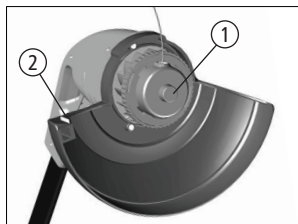
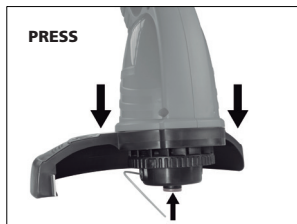

Fig. 11
Fig. 12
While holding down the spool button (1) [Fig. 11] pull the nylon string out to the limiter blade on the guard. Then release the spool button and the nylon string so that the spool may automatically be adjusted to its housing.
With the engine in operation, lightly press the spool button down against the ground [Fig. 12,]. The excess string will be cut by the limiter blade (2), [Fig. 11] when the trimmer is operated.